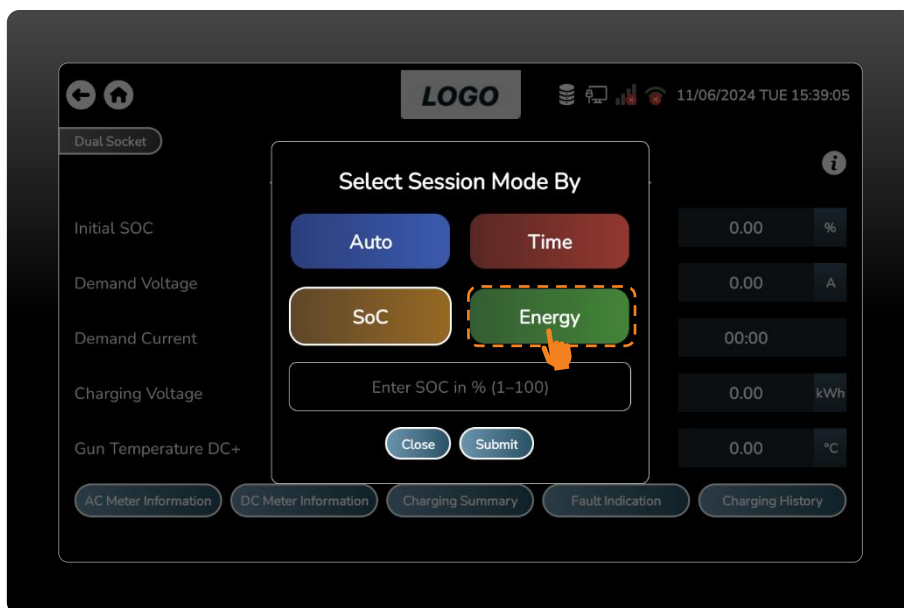

Figure 89 Energy Mode Selection.
- Energy mode enables the user to choose the energy consumption, which ranges from 0.01 to 999.99, allowing them to charge the vehicle at a certain energy consumption. (Figure 89)